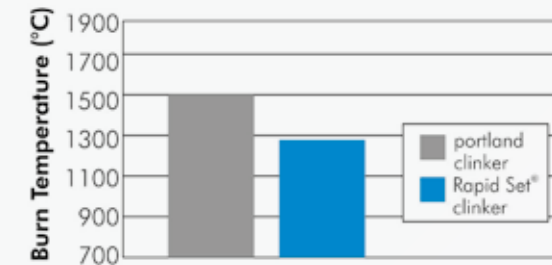

Fig. 2: Clinker burning temperature of portland cement and Rapid Set® cement
- The burning temperature of Rapid Set® clinker is 1,280°C (2,326°F), which is significantly lower than portland clinker burning temperatures (Fig 2).
- The average burning temperature of portland clinker is about 1,500°C (2,732°F) or more (Fig 2).